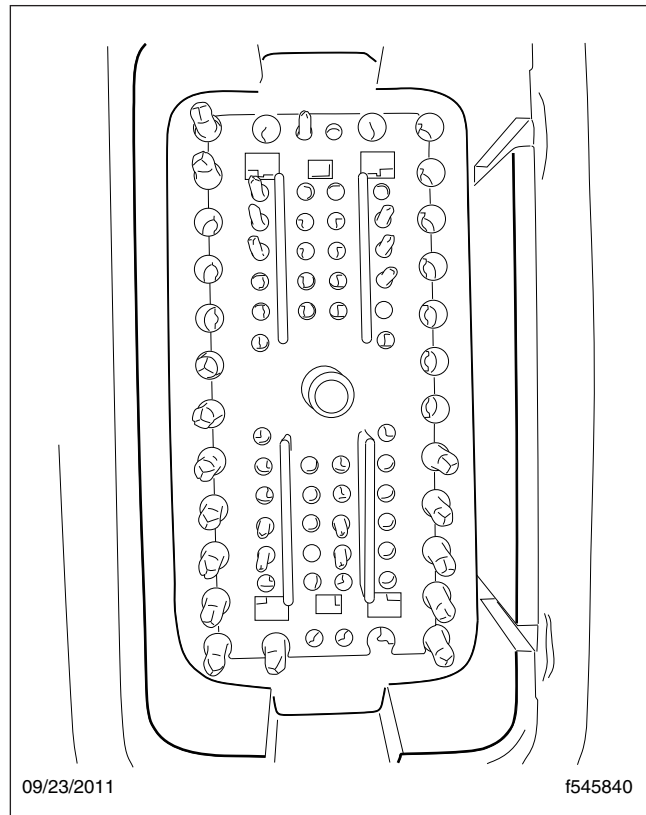

Fig. 2, Bulkhead Connector
- 2.9 Remove the red connector lock and insert wire 433 (green) of the A06-81697-000 harness in cavity 37 (or any available cavity) of the engine side of the bulkhead connector. See Fig. 2.